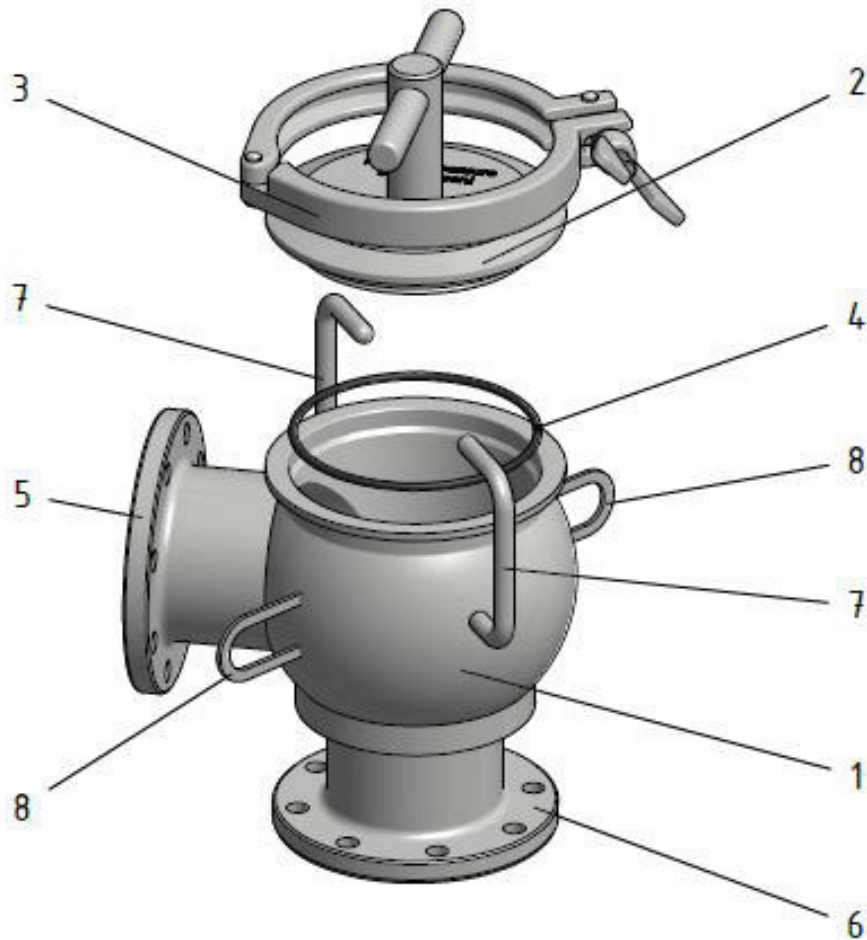

Fig. 6-1: Structure of pigging station with flange connection
- Loosen the wing nut on the sealing clamp (Fig. 6-1, Item 3).
- Remove the sealing clamp (Fig. 6-1, Item 3).
- Remove the housing cover (Fig. 6-1, Item 2).
- Disconnect the flange connections (Fig. 6-1, Item 5, Item 6).
- Clean the installation space on the housing (Fig. 6-1, Item 1) and check for any damage.
- Clean the installation spaces and flange connections (Fig. 6-1, Item 5, Item 6) on the housing (Fig. 6-1, Item 1) and check for any damage.
- Insert the housing (Fig. 6-1, Item 1) and ensure the flange connections with secure screw-fastening.
- Check the gasket (Fig. 6-1, Item 4) for damage.
- Clean the installation space on the housing cover (Fig. 6-1, Item 2) and check for any damage.
- Insert the O-ring (Fig. 6-1, Item 4) into the installation space on the housing cover (Fig. 6-1, Item 2) and lubricate the gasket (Fig. 6-1, Item 4) with approved grease (Unisilikon 641, e.g. from Klüber).
- Insert the housing cover (Fig. 6-1, Item 2) into the housing (Fig. 6-1, Item 1).
- Fasten the housing cover (Fig. 6-1, Item 2) with the sealing clamp (Fig. 6-1, Item 3).